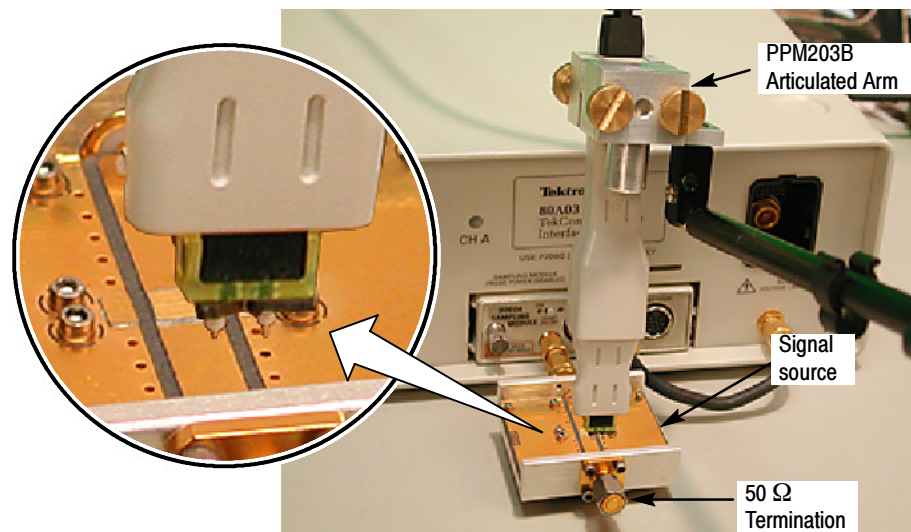

Figure 16: PPM203B Articulated Arm with the Handheld Adapter
3. Probe the calibration fixture using the Handheld Adapter (see Figure 16).
14. Connect the probe input to the probe calibration fixture as shown in Figure 16 on page 36. Check that the TDR function is still active.